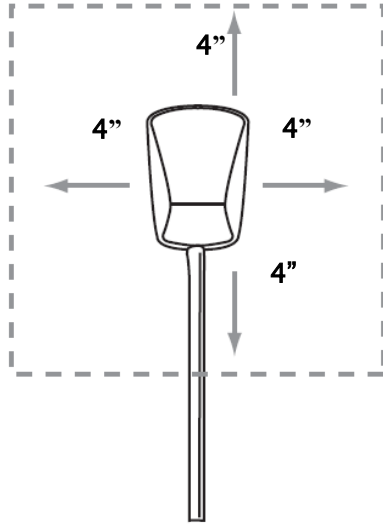

Figure 4 - FLO TV Antenna Placement
2. Select an appropriate mounting position for the FLO TV antenna. The antenna should be mounted where no obstructions will block the antenna from receiving the FLO TV signal. The antenna requires an unobstructed area of 4 inches by 4 inches. Roof racks, roof cargo containers, another antenna, etc., may obstruct the antenna and cause undesired system operations. If the vehicle has a potential obstruction, mount the FLO TV Antenna at least 4 inches away from the potential obstruction (but no closer than 4 inches from the roof edge). (See Figure 4, FLO TV Antenna Placement)